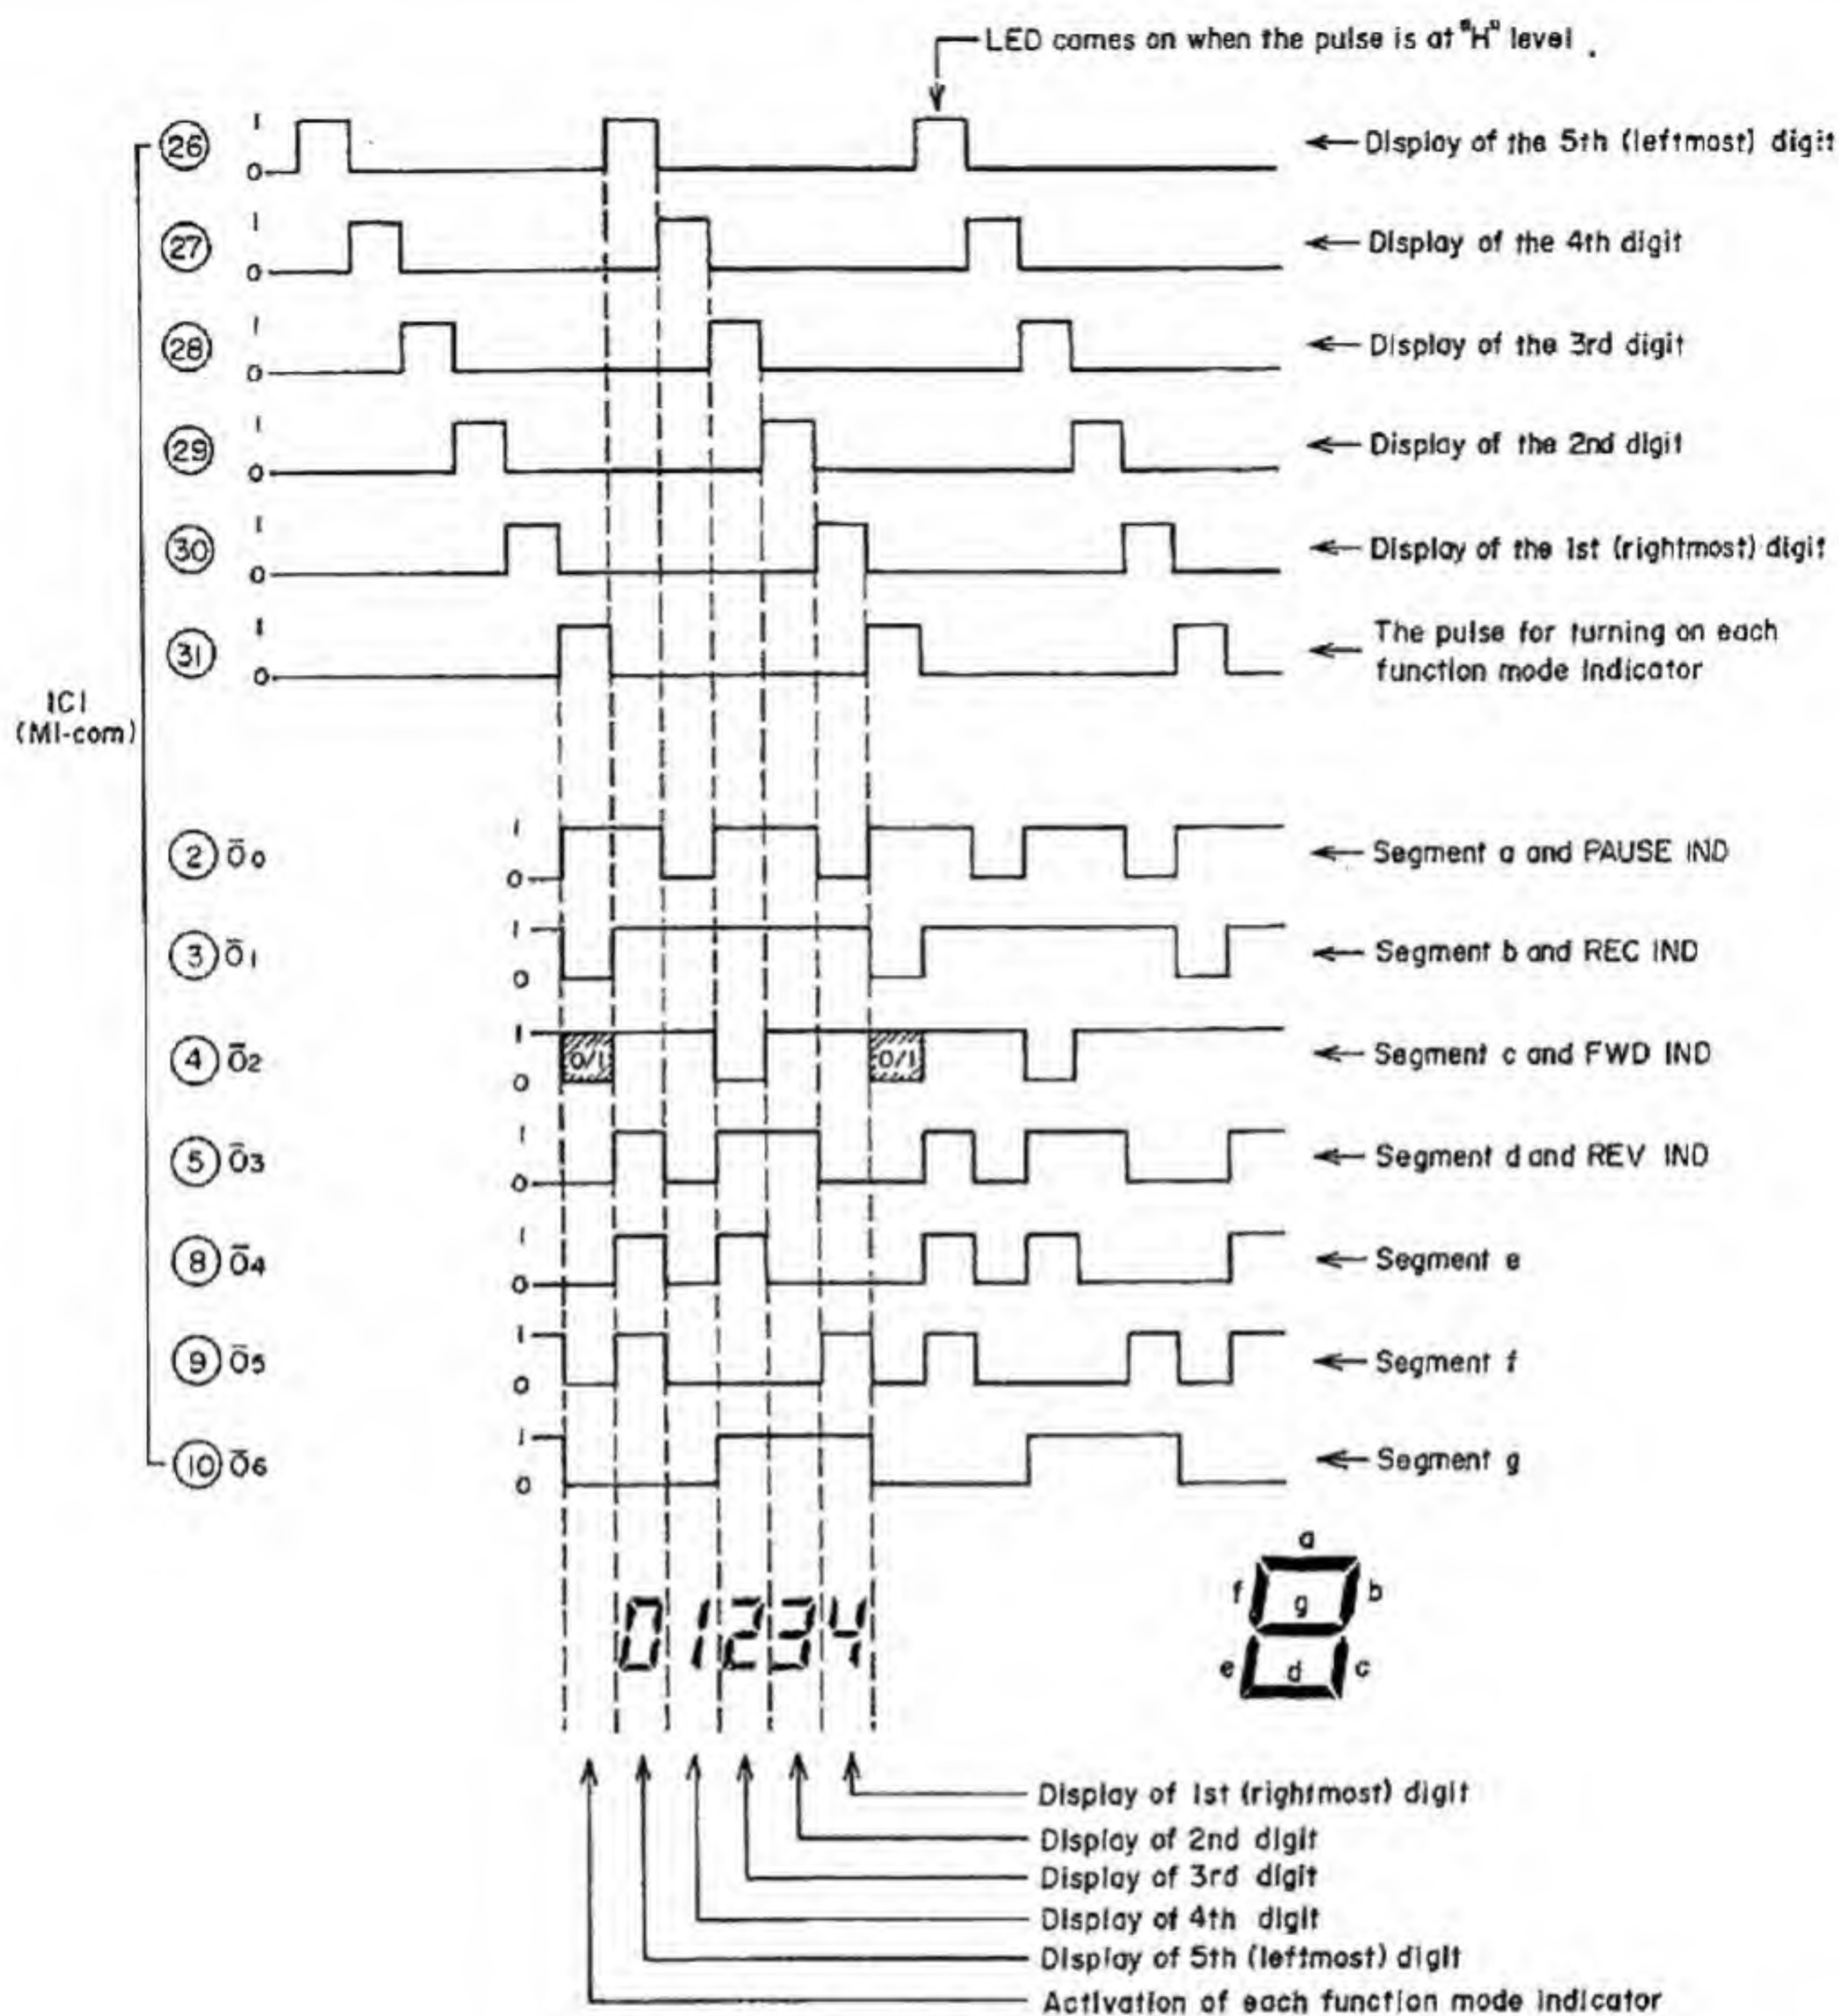

Fig. 23
Here we will explain about the situation in Fig. 23 (FWD PLAY/PAUSE) as one example. Hereinafter FWD PLAY is just written as PLAY. Under PLAY/PAUSE, PAUSE of the function mode indicator is always lit and PLAY is flashing. Firstly, refer to the vertical row of the function mode indicators of O0 - O3 in Fig. 23. You will note that PAUSE IND has "H" level, PLAY IND has "L/H" flashing and others have "L" level.
Fig. 23 shows the timing chart. By means of the waveforms of IC (26) - (30) coming from the microcomputer, the lighting position of LED of each digit is moved in sequence. Take the example of the first digit.
tion of $\bar{O}0 - \bar{O}6$ of the first digit indication in Fig. 23, b, c, f, and g segments are lit and a, d and e segments are dark. In this condition, the indicator indicates 4. Similarly if we look at the 2nd - 5th digits, 01234 is indicated in the condition of Fig. 23.